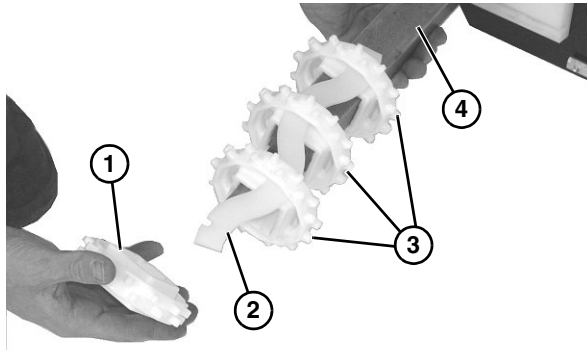

Figure 37
10. Slide entire sprocket assembly slightly outward, and remove the first sprocket (**Figure 37, item 1**) off the drive spindle and alignment bar (**Figure 37, item 2**).
11. Remove remaining sprockets (**Figure 37, item 3**) off the alignment bar as you slide entire assembly off the drive spindle (**Figure 37, item 4**).